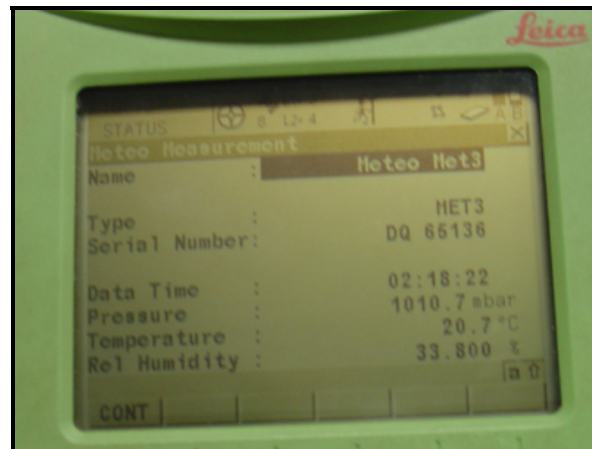

Figure 8. GRX1200 Real-Time Data Display Screen
19. To make sure that your GPS receiver is receiving data from MET station, press the “USER” button on the terminal. Press the “F3” button to display status. Highlight “Interface” option. Press “Enter” key on the terminal. This will give you a list of interfaces. Select “Meteo” and press the “F3” key (IFACE). This will switch the receiver to a mode in which it displays real-time data from the MET station as in Figure 8.